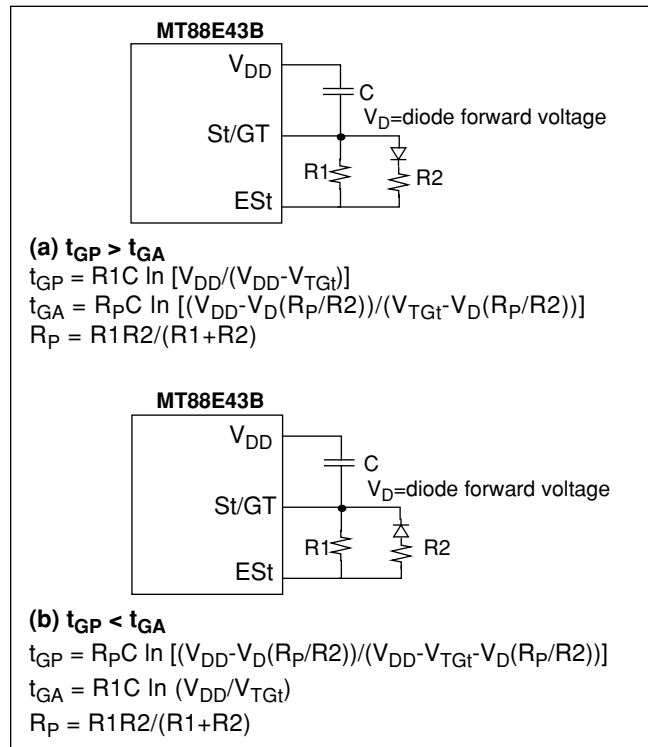
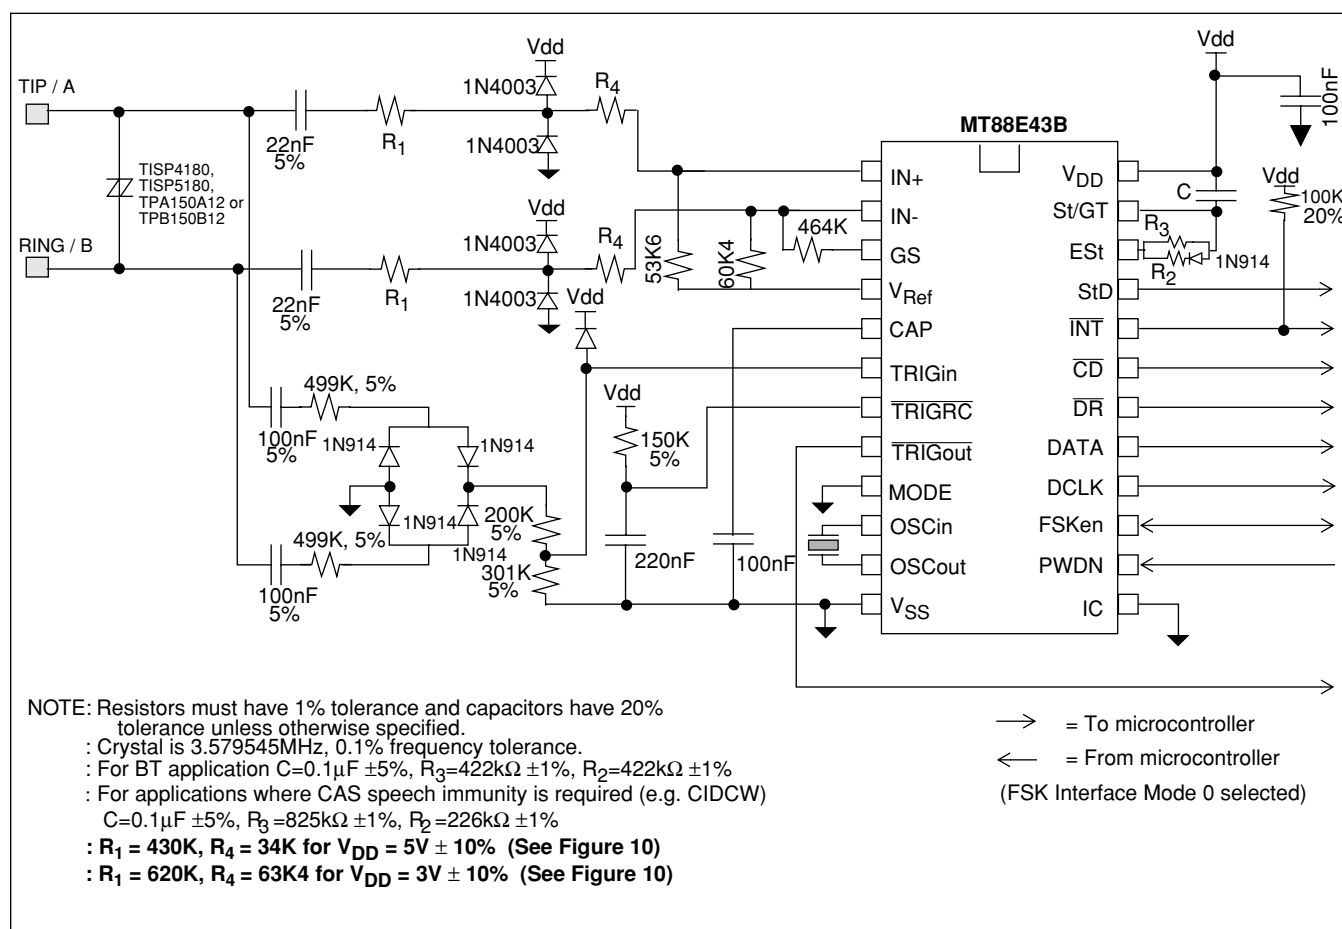
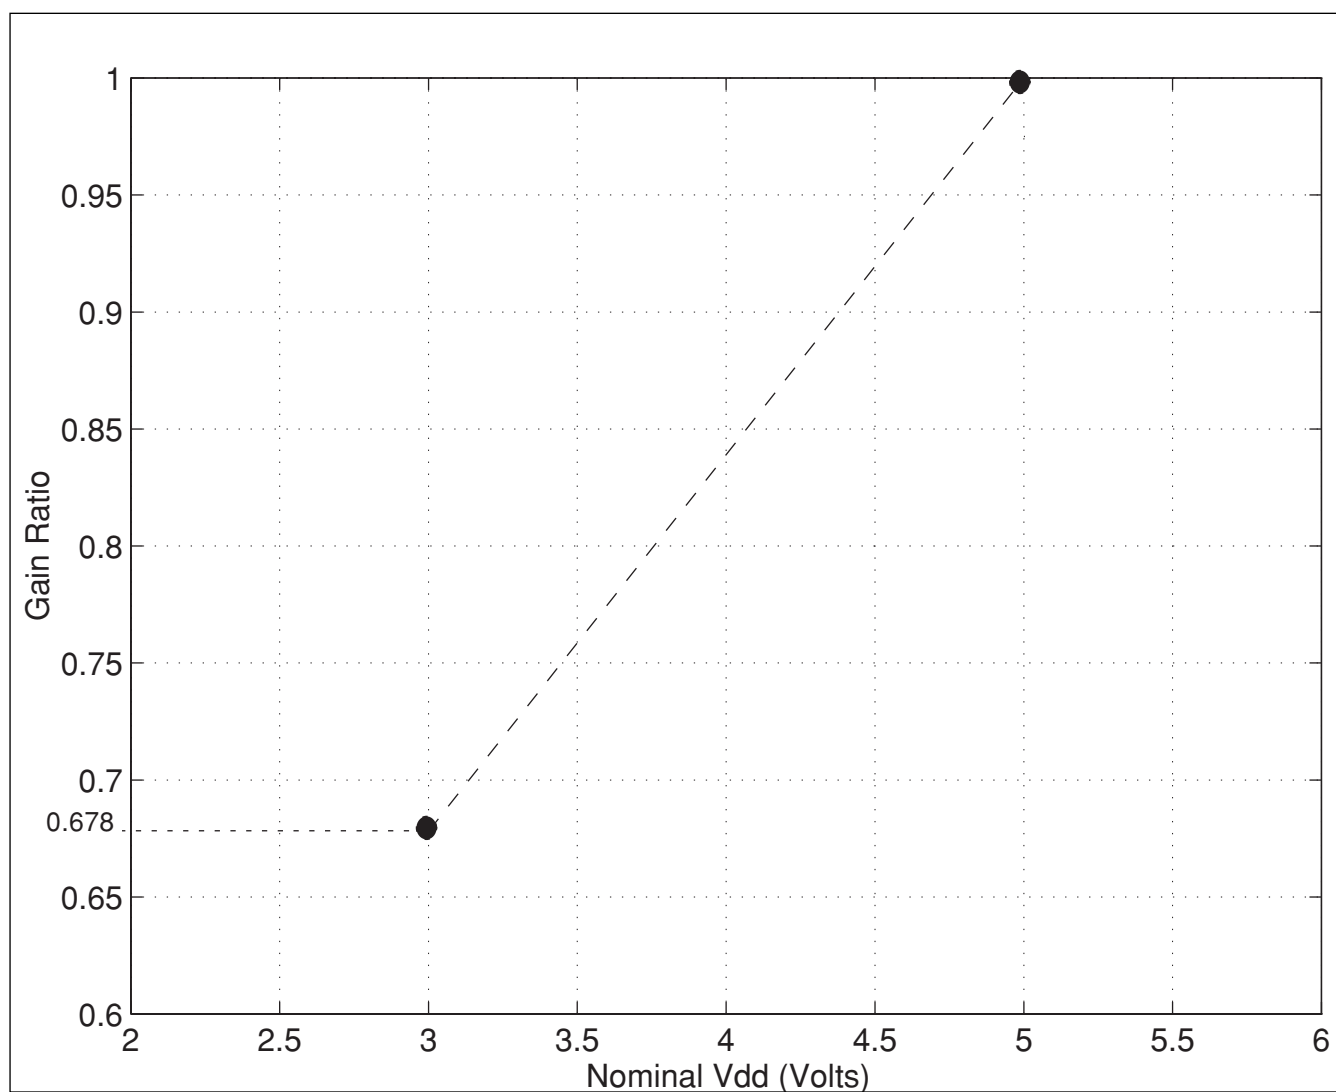

Figure 5 - Guard Time Circuits with Unequal Times
Figure 9 - Application Circuit
Figure 10: Gain Ratio as a function of Nominal Vdd
BT specifies that the idle state tone alert signal recognition time should not be less than 20ms when both tones are used for detection. That is, both tones must be detected together for at least 20ms before the signal can be declared valid. This requirement can be met by setting the t_{GP} (refer to Figure 5) to at least 20ms.
BT also specifies that the TE is required to apply a DC wetting pulse and an AC load 15-25ms after the end of the alerting signal. If $t_{ABS}=t_{DA}+t_{GA}$ is 15 to 25ms, the DC current wetting pulse and the AC load can both be applied at the falling edge of StD. The maximum t_{DA} is 8ms so t_{GA} should be 15-17ms. Therefore, t_{GP} must be greater than t_{GA} . Figure 5(a) shows a possible implementation. The values in Figures 9 and 11 ($R_2=R_3=422K$, $C=0.1\mu F$) will meet the BT timing requirements.
The circuits shown in Figures 9 and 11 are application circuits for the MT88E43B. As supply voltage (V_{DD}) is decreased, the threshold of the device's tone and FSK detectors will be reduced. Therefore, to meet the BT or Bellcore tone reject level requirements the gain of the input opamp should be reduced according to the graph in Figure 10. For example when $V_{DD}=5\text{V}$ (+/- 10%), R_1 should equal 430k Ω and R_4 should equal 34k Ω ; and if $V_{DD}=3\text{V}$ (+/- 10%) R_1 should equal 620k Ω and R_4 should equal 63.4k Ω . Resistors R_1 and R_4 are shown in Figures 9 and 11.
The circuit shown in Figure 9 illustrates the use of the MT88E43B in a proprietary system that doesn't need to meet FCC, DOC, and UL approvals. It should be noted that if glitches on the Tip/Ring interface are of sufficient amplitude, the circuit will falsely detect these signals as ringing or line reversal.
Note: In the application circuits shown in Figures 9 and 11, the Gain Ratio of MT88E43B opamp is
3. Tip/Ring signal level. Input opamp configured to 0dB gain at V_{DD}=5V±10%, -3.38dB gain at V_{DD}=3V±10%. (see Figure 10)